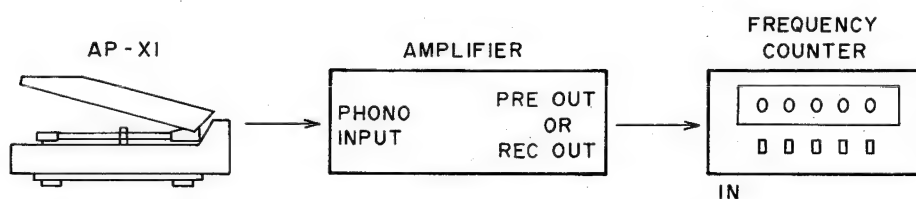

Fig. 7-2 Instruments Connection
- 1) Connect a Amplifier and Frequency counter as shown in Fig. 7-2.